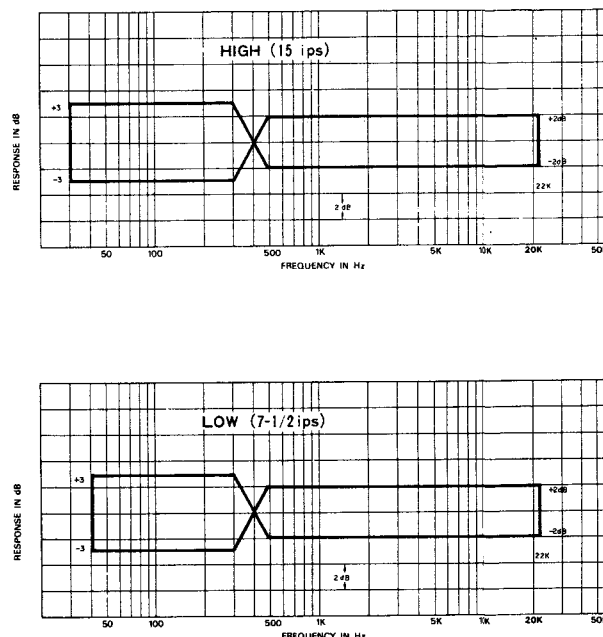

Fig. 10-7 Frequency Response —PLAYBACK—
2. Play Tape and compare readings on VTVM with the response limits given in Fig. 10-7.